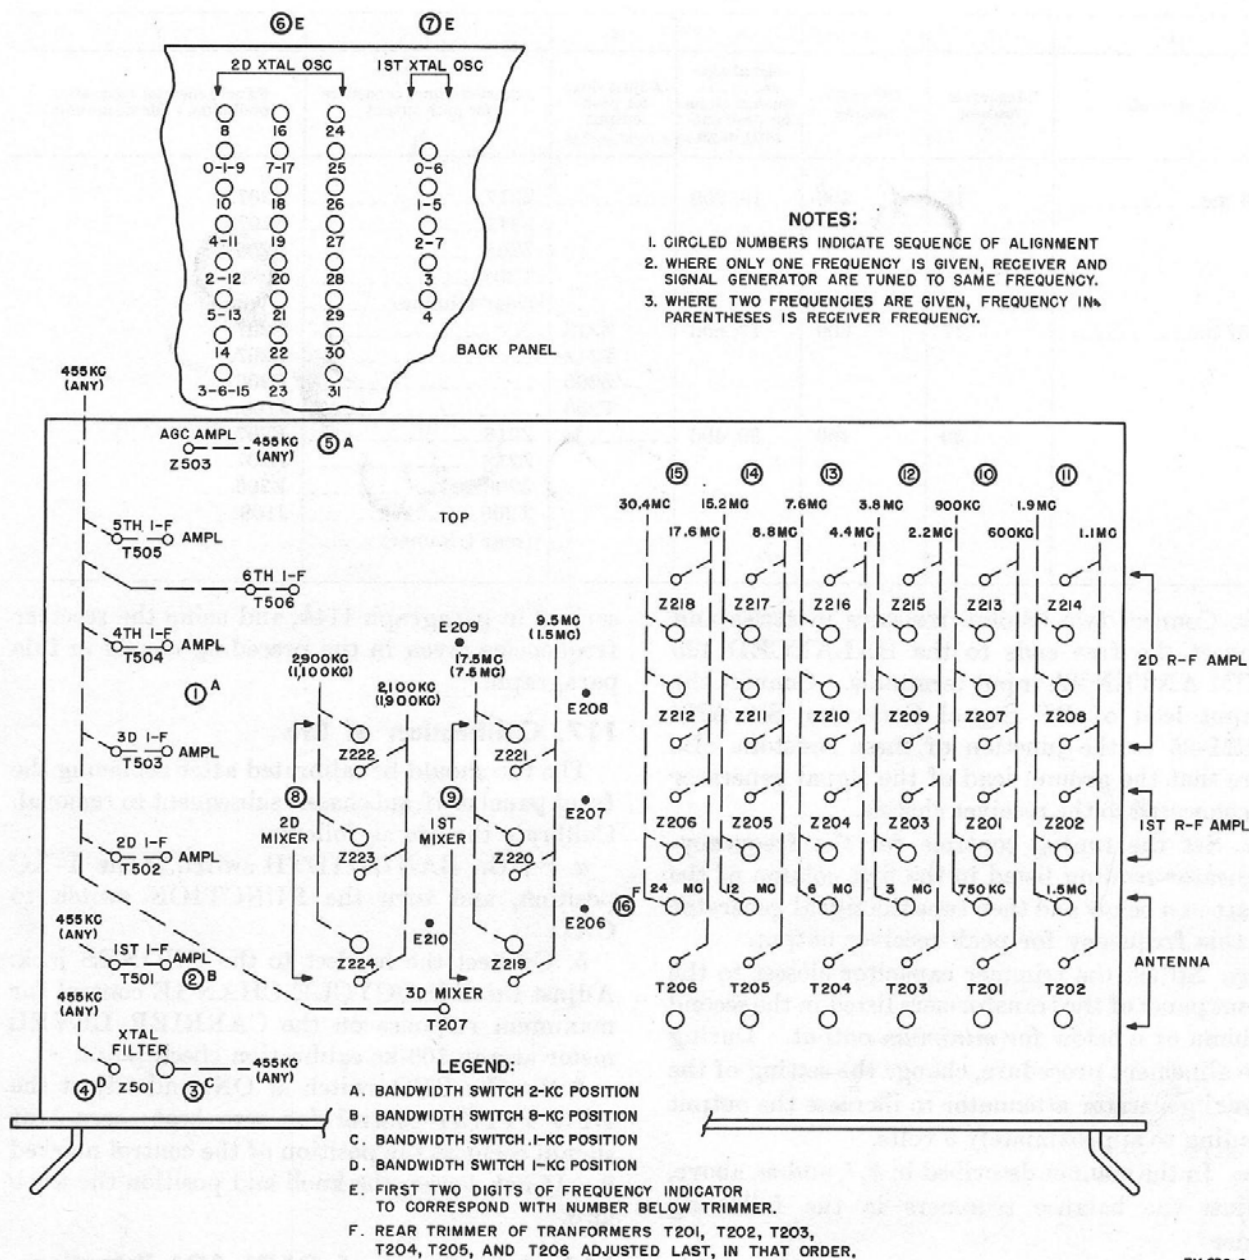

Figure 91. Radio Receiver R-390/URR, alignment chart.
113. Alinement of First Crystal Oscillator (fig. 91)
114. Alinement of Second Variable If. Stage (fig. 91)
j. Proceed with the rf alinement by performing adjustments in the order listed in the chart below. Refer to figure 91 for location of slugs and trimmer capacitors.